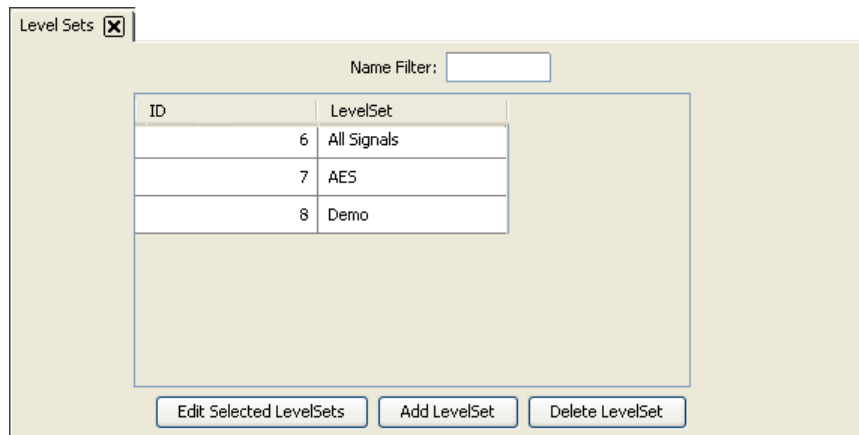

Figure 8-25. Level Sets Page
- 2 From the Navigation area, select the 'Configuration' pane and then 'Level Sets'. The 'Level Sets' page appears, as shown in Figure 8-25.